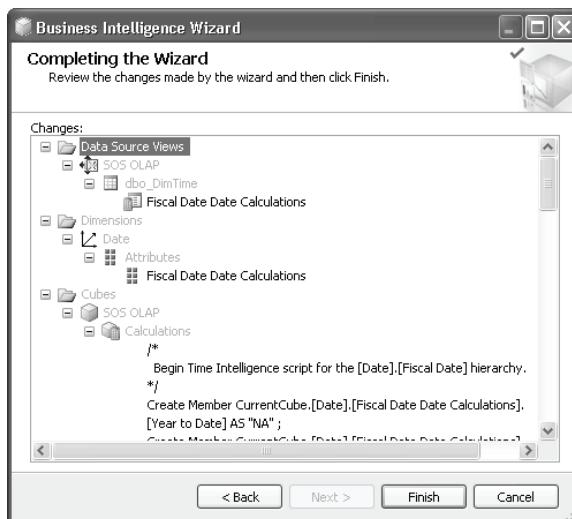

Figure 10.26 Review the changes that the Business Intelligence Wizard will make.
6. Completing the Wizard step lists the changes that the Business Intelligence Wizard will make to the underlying data source view, Time dimension, and the MDX script of the cube (Figure 10.26).